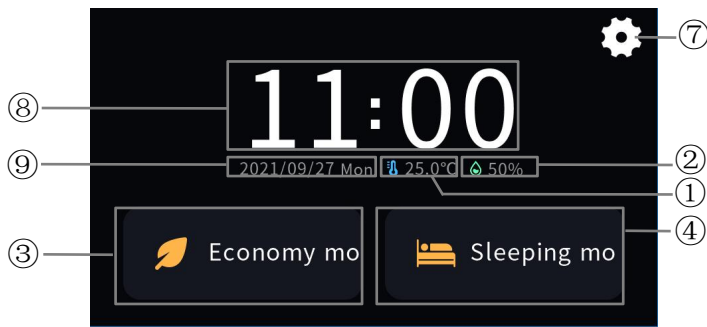
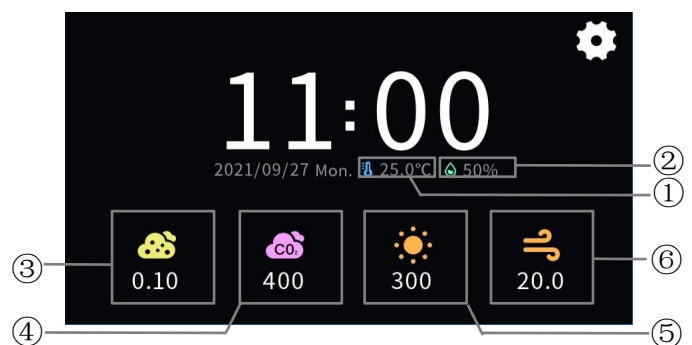

Fig.2.1.1 Home page Status+Scene
Fig.2.1.2 Home page Status
Home page supports 2 display styles: Status+Scene, Status, UI interfaces are shown as Fig.2.1.1, Fig.2.1.2. Interface style is set by the parameter. The number of icons to be displayed is also set by the parameter, up to display 6 icons. The placement principle of the function icon is from left to right and from top to bottom.
③~⑥ display air information, display four icon statuses. And you can select the type of air information via the ETS configuration to display, including Temperature, Humidity, PM2.5, PM10, CO2, VOC, AQI, Wind Speed and Rain. Shown as Fig.2.1.2.
⑦ The icon is setting icon, touch to enter the setting page, detail in chapter 2.3.
⑧ This area displays the current time.
⑨ This area displays the current date.